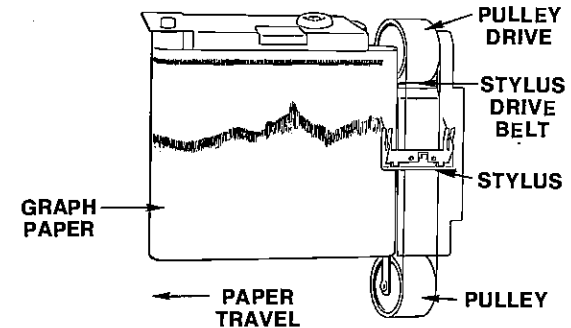

Fig. 4
3. The stylus belt rides over two wheels located at the right edge of the platen assembly. Refer to Figure 4 on page 3. Move the front of the belt **DOWN** to position the stylus at the center of the platen.